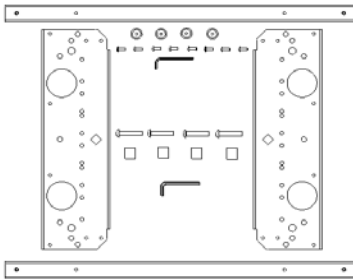

Figure 1
1. Prior to assembly, unpack carton completely and verify contents. Refer to Figure 1.